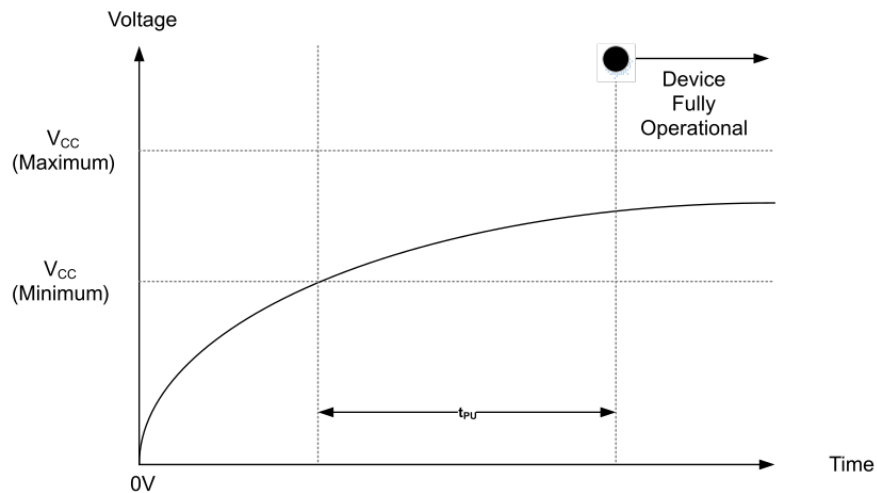

Figure 5: Power-Up Behavior
- The device must not be selected at power-up (a 10K Ω pull-up Resistor to VCCIO on E# is recommended). Then a further delay of t_{PU} (Figure 5) until VCC reaches VCC(minimum) .